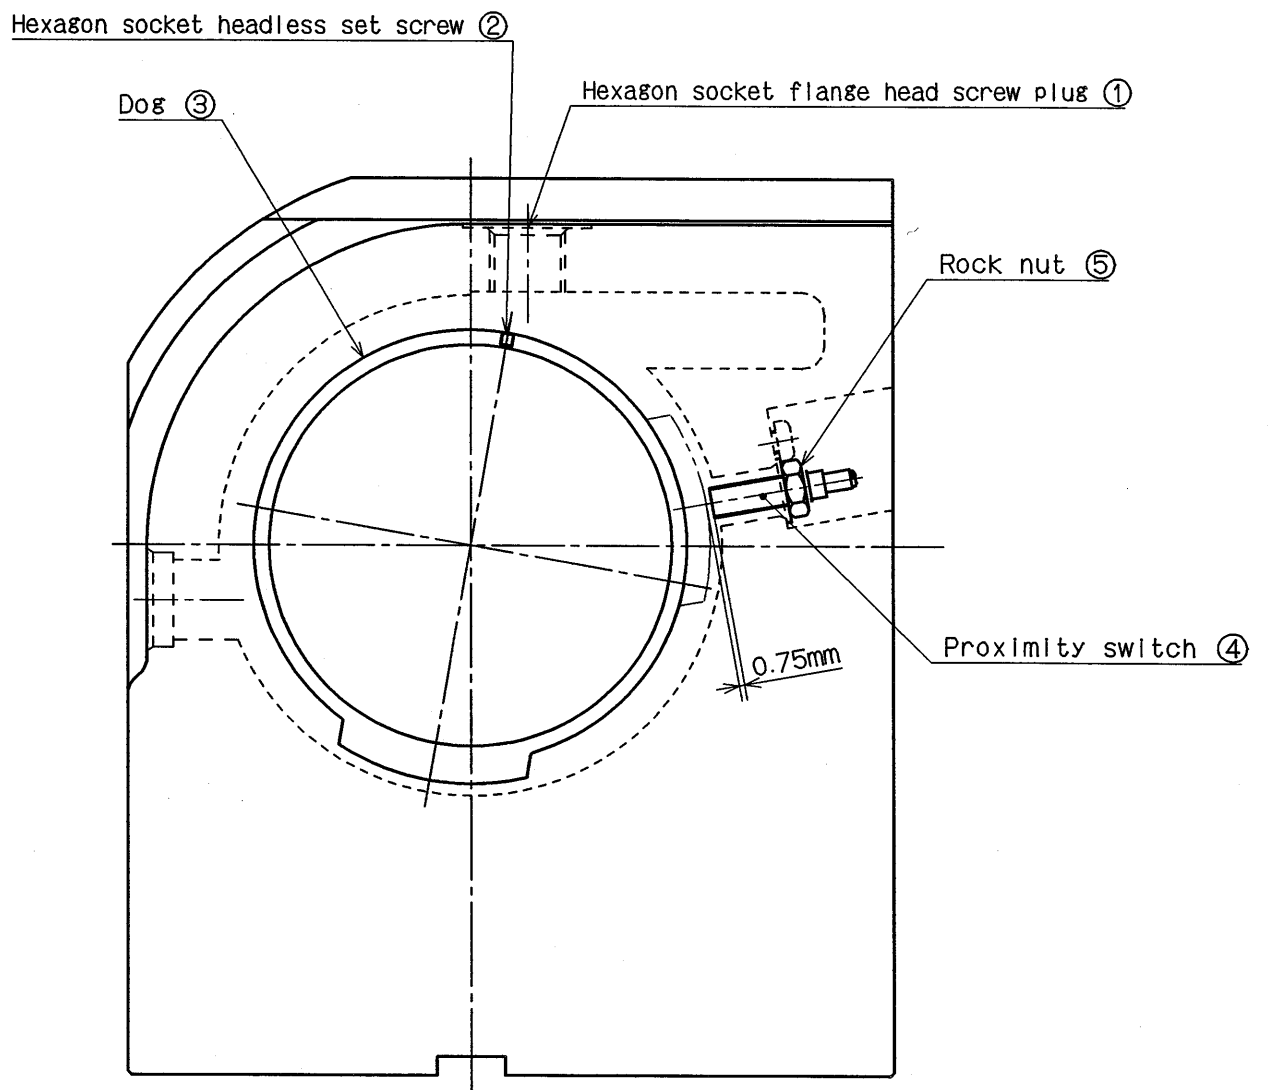

Fig.4
9-2 ZRN device Adjustment (See Fig.4)
- 1) Proximity Switch (See Fig. 4)